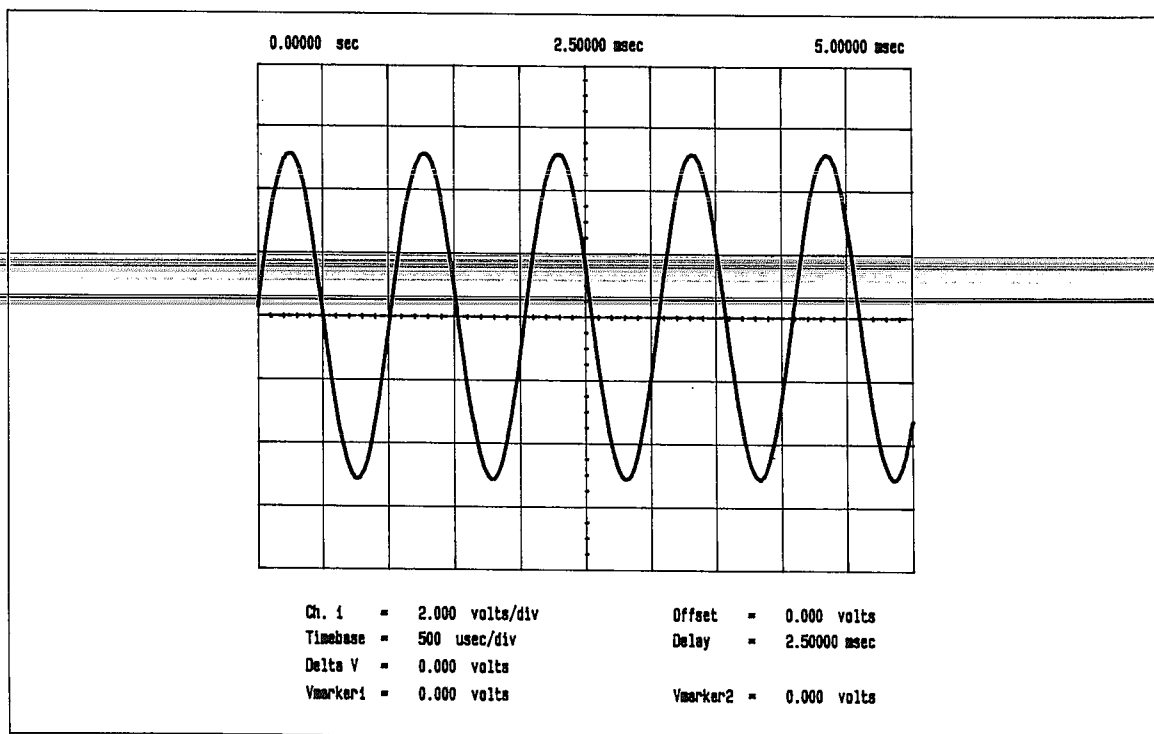

Figure 7-7 SYNC 2 Test Sine Wave
8. Refer to figure 7-7 to verify the correct result.